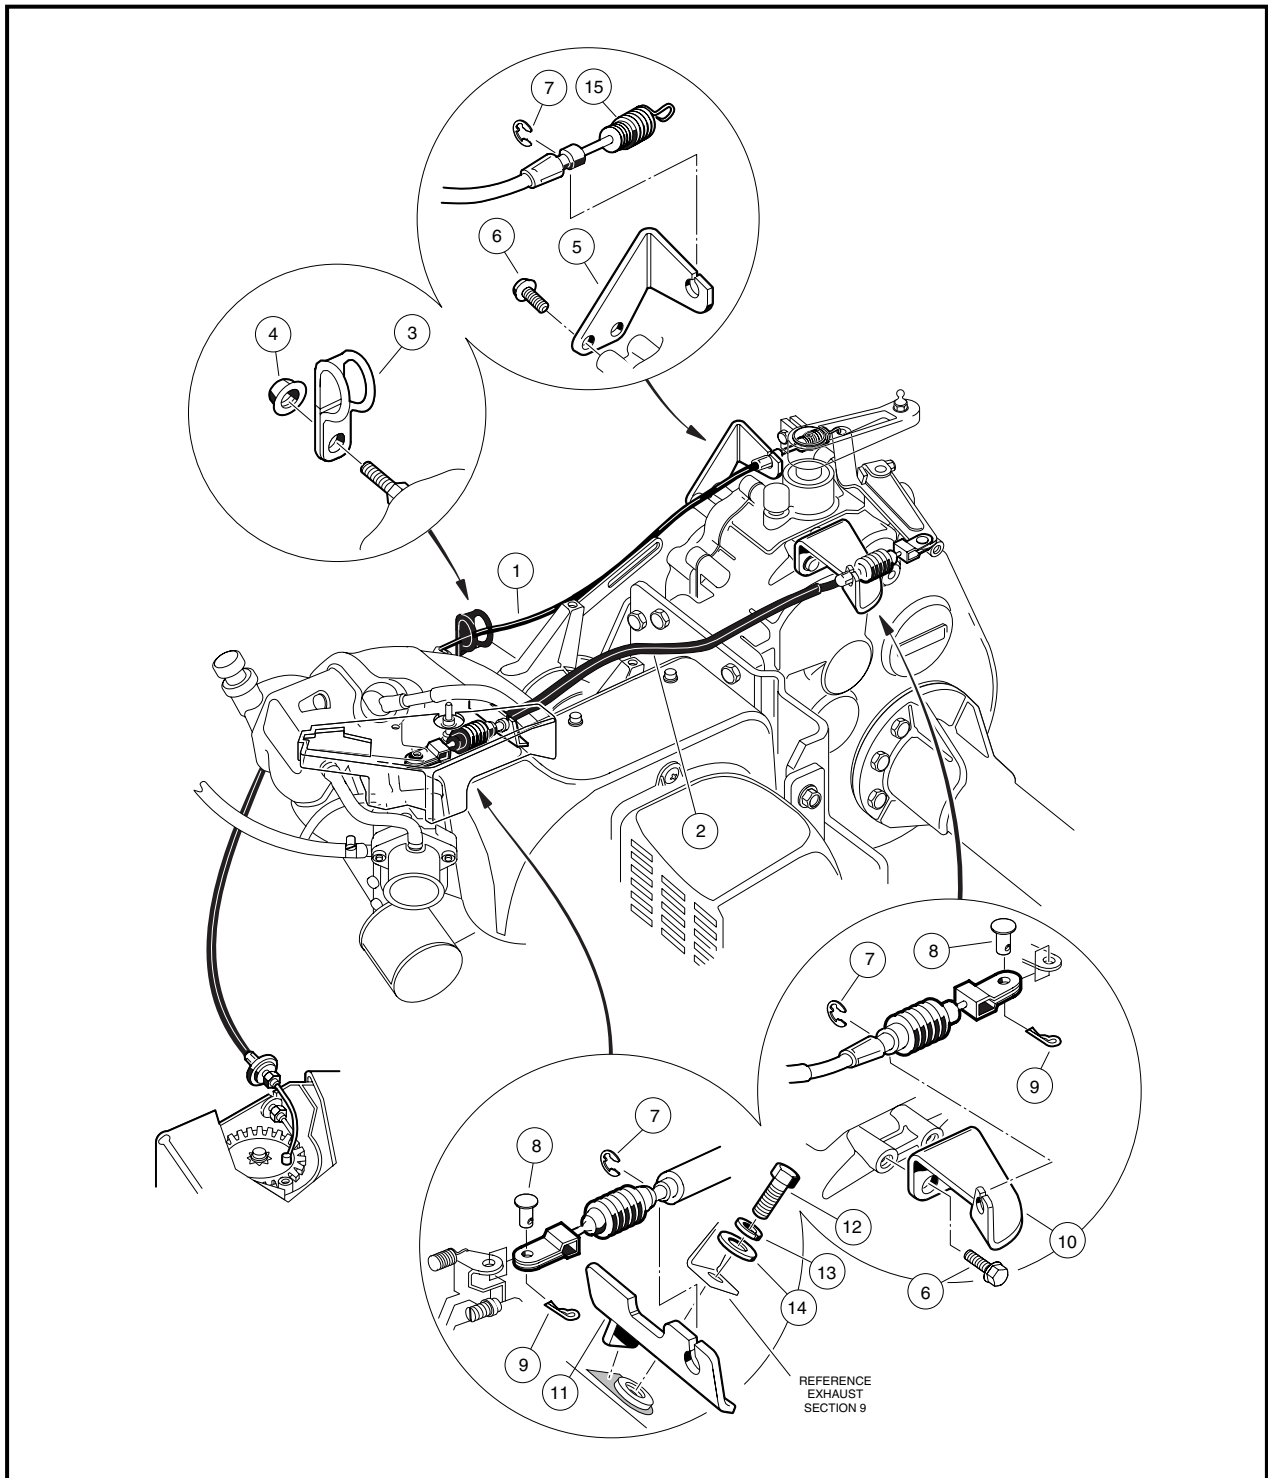

FIGURE 14-11
The mounting of the governor and accelerator cables shown in the 1995-1996 Maintenance and Service Manual in Figure 14-11 on Page 14-12 was changed with incorporation of the unitized transaxle on 1997 vehicles. The following instructions under the headings GOVERNOR CABLE and ACCELERATOR CABLE supersede those in the 1995-1996 Maintenance and Service Manual on pages 14-11 through 14-13.
4. Remove the “E” ring (7) at the governor cable engine bracket (11), and governor cable transmission bracket (10) **(Figure 14-11)**.
5. Remove the spring cotter (9) and clevis pin (8) at the rear governor lever arm **(Figure 14-11)**.
6. Remove the cable (2) **(Figure 14-11)**.
1. Install the cable onto the governor cable transmission bracket (10) and the engine bracket (11) and attach an “E” ring (7) at each end **(Figure 14-11)**.
2. Install the clevis pin (8) and spring cotter (9) through the clevis and carburetor throttle at the carburetor **(Figure 14-11)**.
3. Install the clevis pin (8) and spring cotter (9) through the rear clevis and governor lever arm.
3. Disconnect the cable (1) (Figure 14-11) from the cam in the electrical box (See Figure 14-9, Page 14-10 in the Maintenance and Service Manual).
4. Remove the “E” ring (7) on the spring end of the cable at the accelerator cable bracket (5) (Figure 14-11). Pull the cable housing out of the bracket.
5. Disconnect the spring (15) from the engine governor arm by rotating it counterclockwise one-half turn. Remove the cable assembly from the vehicle (Figure 14-11).
3. Connect the spring (15) to the engine governor arm (**Figure 14-11, Page 141**).
4. Install the cable in the accelerator cable bracket and secure it with the "E" ring (7) (**Figure 14-11**).